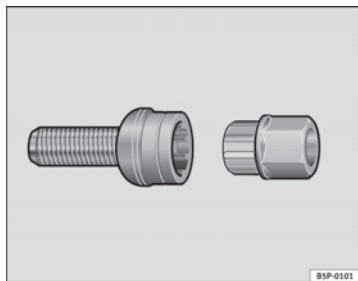

Fig. 136 Anti-theft wheel bolt
- Insert the adapter onto the wheel bolt and push it on as far as it will go ⇒ fig. 136.